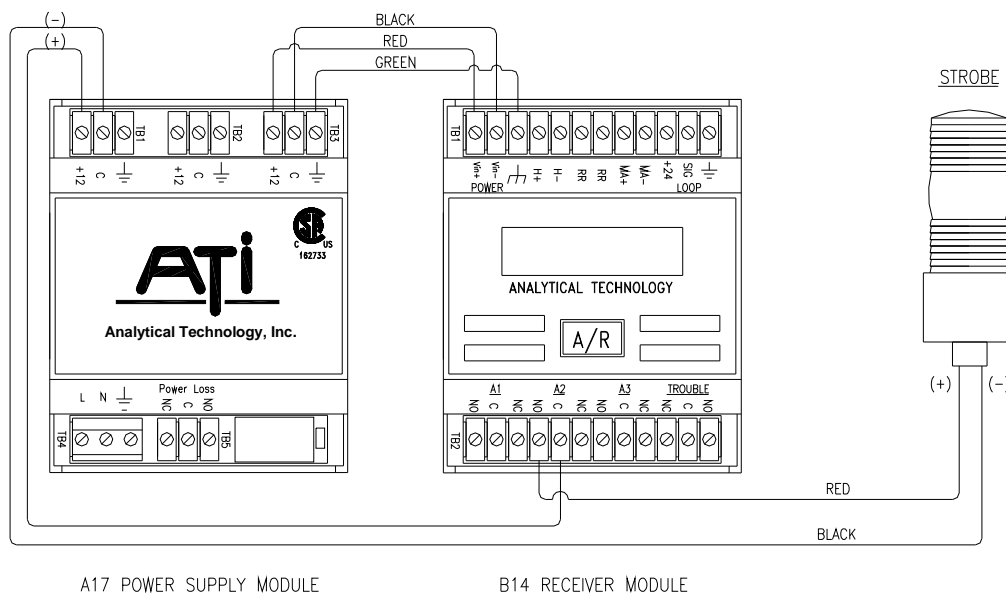

Figure 22 - External Strobe Light Connections (ATI-0202)
The power to operate the strobe can be picked up from the power supply module which is part of the alarm unit. Figure 22 shows the typical wiring diagram for connection of the strobe. The wiring diagram shows the plus side of the supply brought to the common of the alarm contact, one side of the strobe wired to the normally open (NO) contact, and the other side of the strobe connected to the minus side of the supply. Connection of the strobe lamp directly across the alarm relay will not operate the strobe because alarm contacts are unpowered.